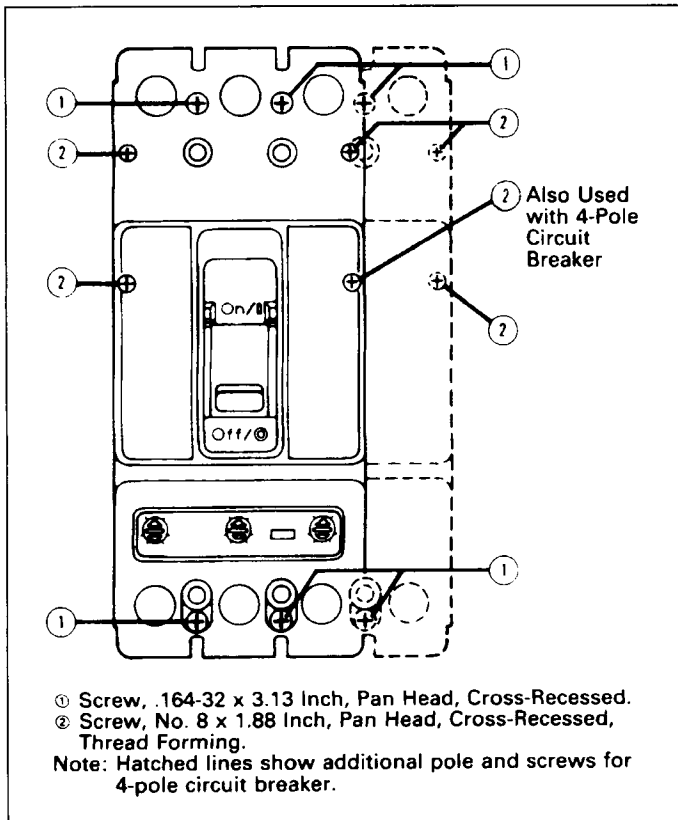

Fig. 2-6. Cover Screw Installation Positions
- 2-7. With circuit breaker handle in TRIP position and accessory pigtail leads (if used) routed as required, install circuit breaker cover. Secure with pan-head screws followed by thread-forming screws, as shown in Fig. 2-6.